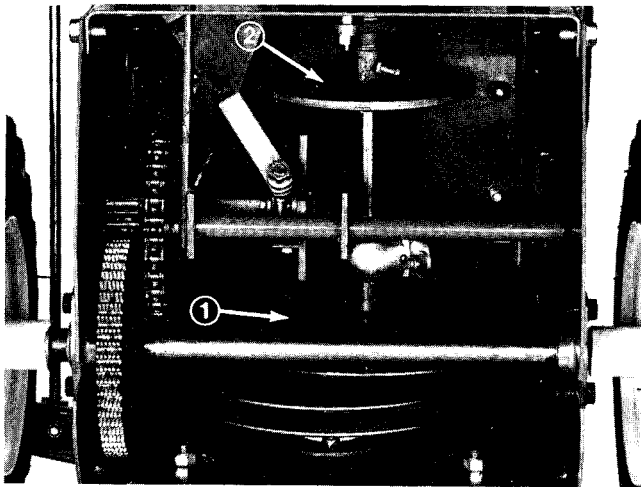

Figure 34
5. Top and bottom surface of rubber drive wheel must be an equal distance from the friction disc and pulley (Fig. 34). If distance is the same and traction control does not function properly, contact your local authorized Toro service dealer. If distance is not the same, proceed to step 6.